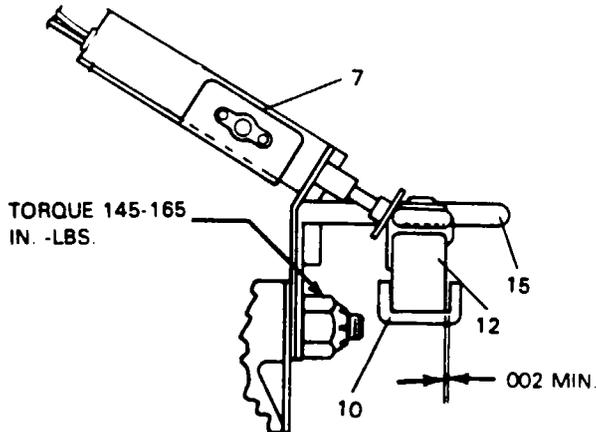

Figure 76-3. Low Pitch Stop Switch Adjustment
1. Check the feedback ring for run out and carbon block clearance. (Refer to Figure 76-3.)
**LOW PITCH STOP SWITCH ADJUSTMENT. (Refer to Figure 76-3.)**